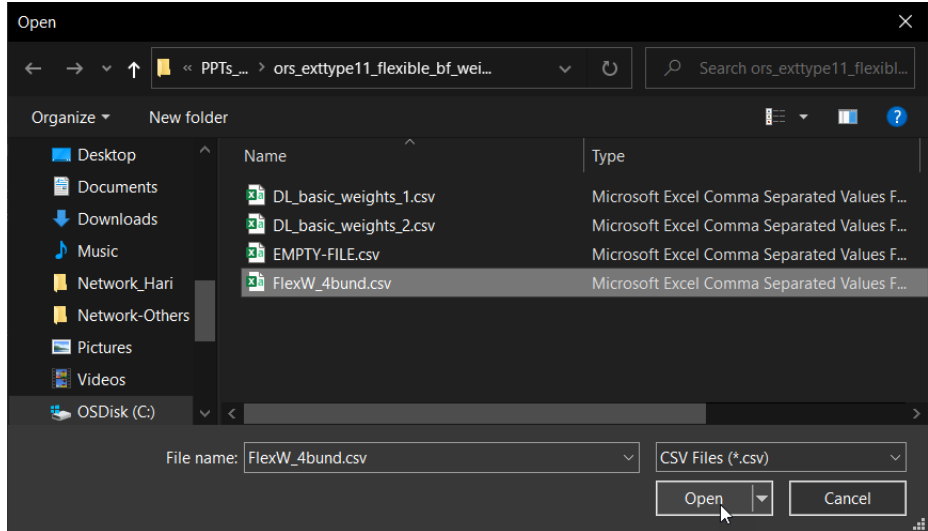

Figure 318 Opening the Weights file for the Flexible beamforming method
- Load Weights—Click “Open” to navigate to the directory, where the Beam Weights file (in CSV format) is located. See Figure 318.
- 11 From the 'Open' dialog box, select the required file and click 'Open', as shown in Figure 318.